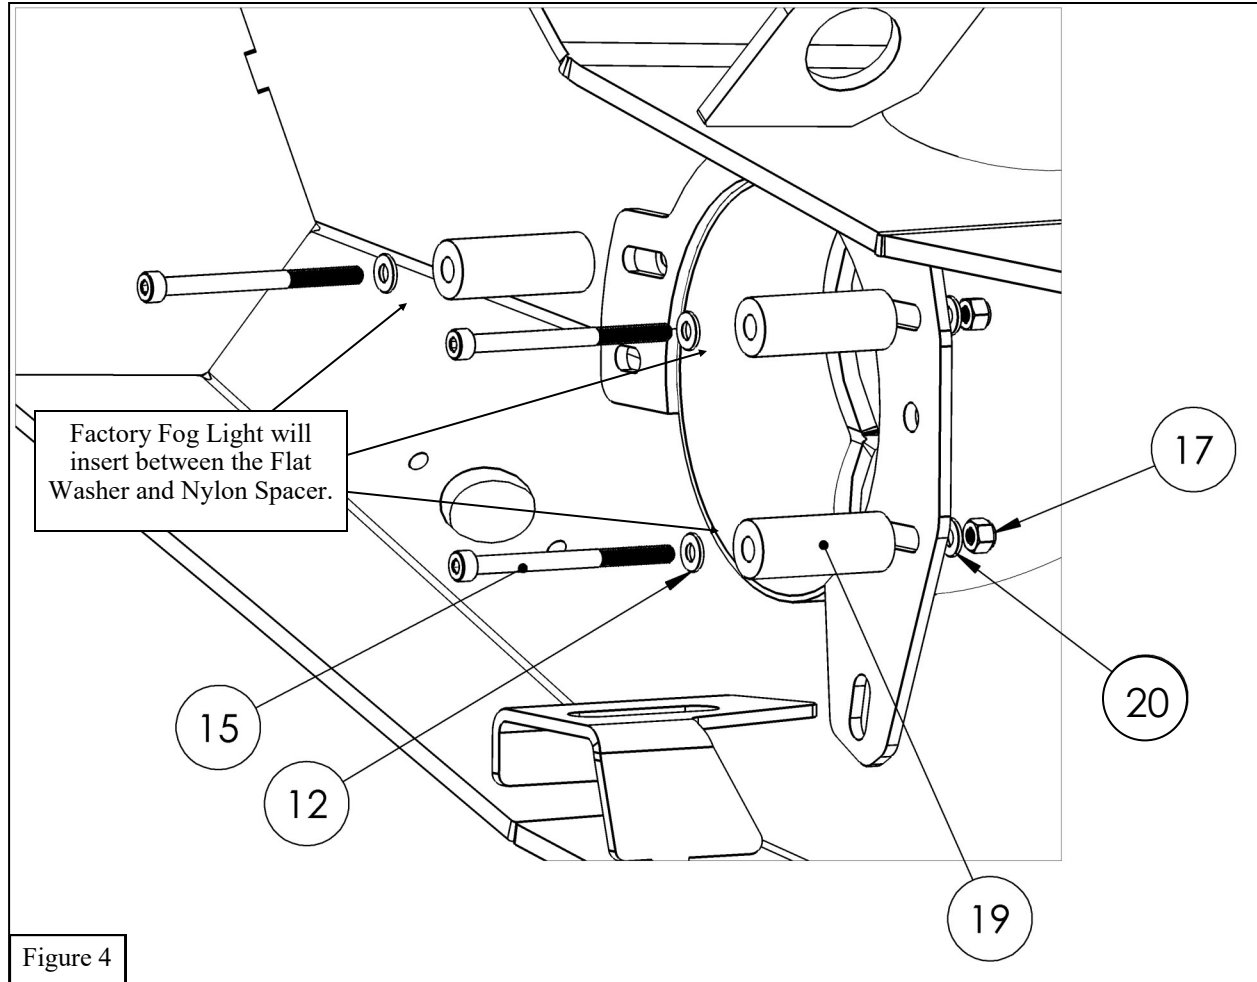

Figure 4
7. Use the supplied M10 Hardware (Items 3-6) to secure the bumper to the vehicle. See **Figures 4 & 5** for reference.
**Rubicon Models w/ Plastic Bumpers:** If the vehicle is a Rubicon model with the OEM Plastic Bumper, you will need to use 3 Nylon Spacers (Item 19) and the supplied M4 Hardware to secure the light into place. See **Figure 4** for reference.
Install lights in the lower corners of the bumper using supplied M4 hardware (Items 11-14). See **Figure 4** for reference.